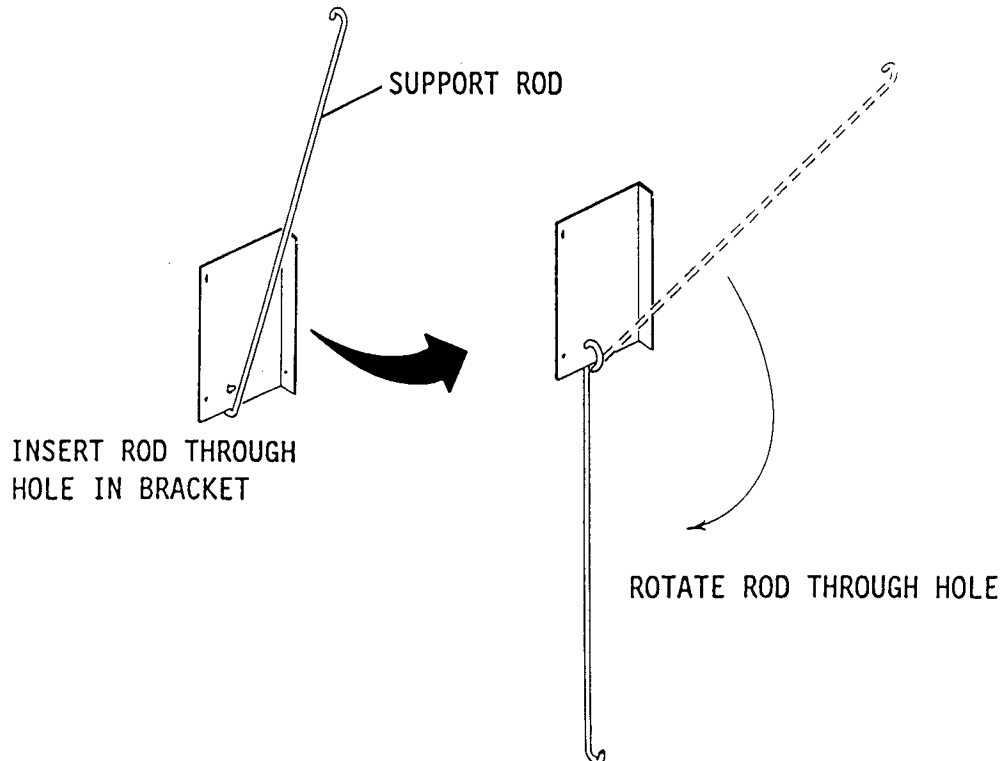

FIGURE 6. Assembling the Support Rod and Rod Bracket
1. Assemble the support rod and bracket as shown in Figure 6.